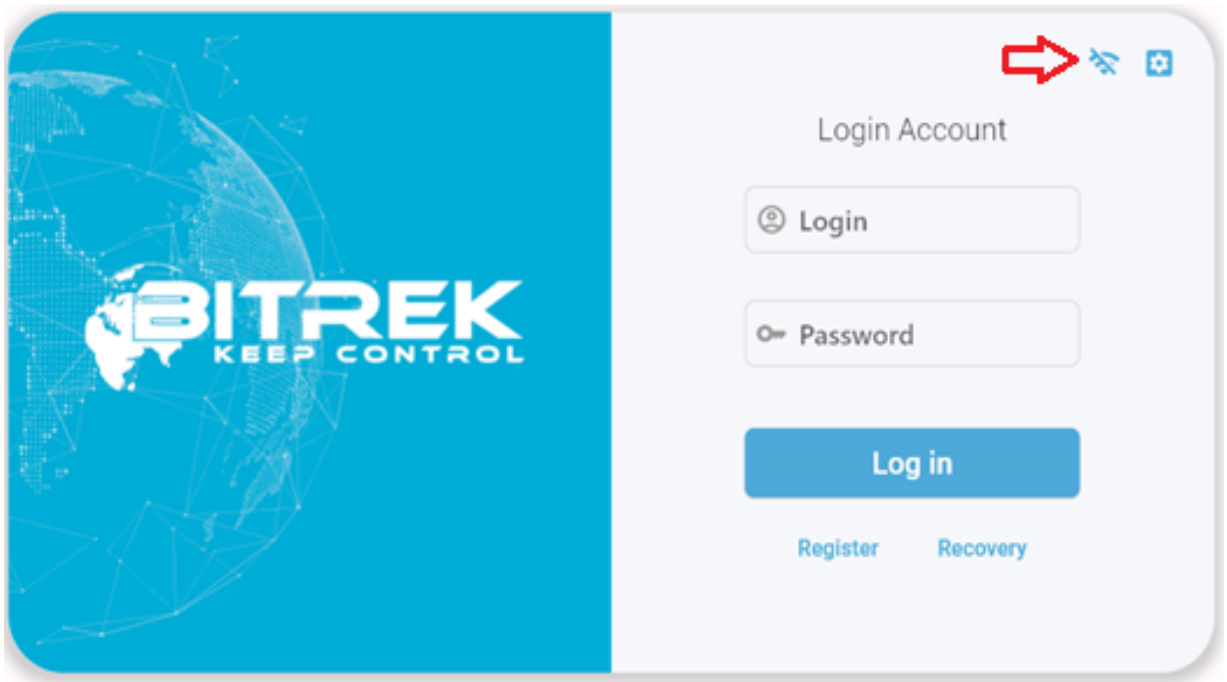

Figure 7. Switch to offline mode
- there is no Internet access on the PC. To get the ability to connect to the tracker without the ability to log into the account, you need to click the "Offline mode" icon at the authorization stage (figure 7).